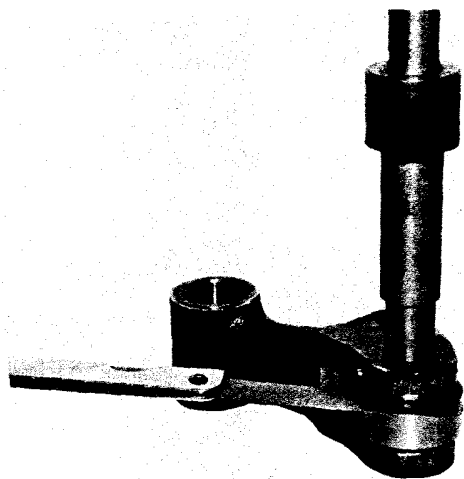

Fig. 4-14, (N10406). Installing cam follower roller pin
2. Install rollers with 0.006 inch [0.15 mm] feeler stock beneath roller and next to lever as a support. Press pins through rollers and levers, then remove feeler stock. Fig. 4-14. Secure with roll pins.